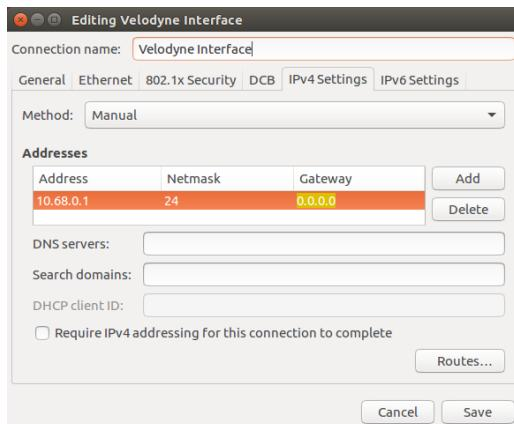

Figure 163: Velodyne network connection settings
4. The settings should look similar as shown in the Figure 163